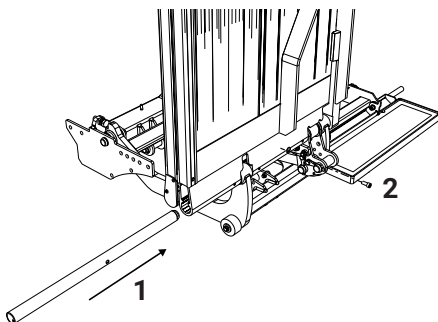

Figure 14. Fit in and lock the platform shaft
4. Push the shaft inwards until its flush with the platforms surface on the opposite side, see Figure 14:1.
5. Fit in the screw (attached), see Figure 14:2, to lock the platform shaft.